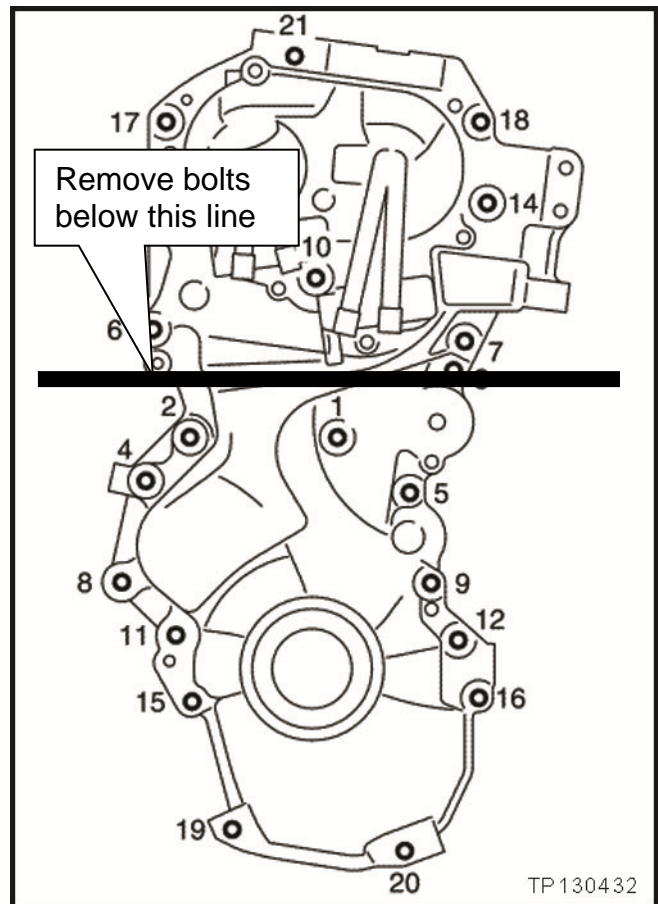

Figure 25
- Remove the bolts below the line in Figure 25.